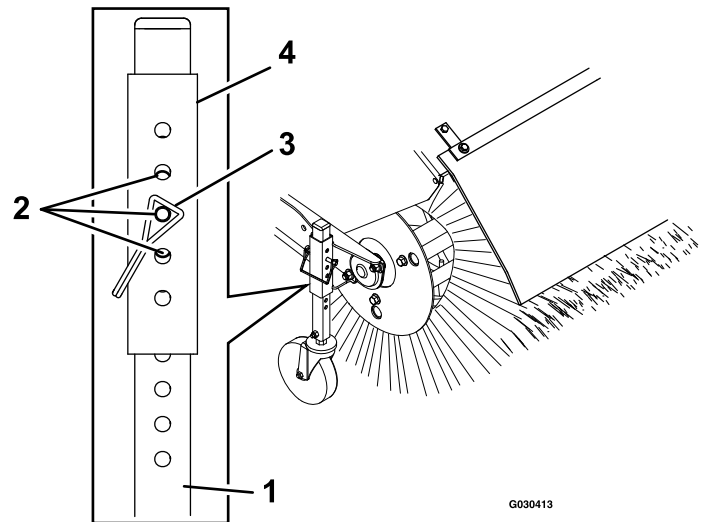

Figure 17
- To adjust the broom height, remove and retain the pin from the adjuster sleeve and wheel tube of the caster (Figure 17).
7. For fine tuning adjustments, slide the adjuster sleeve 1 pin hole up or down on the caster wheel tube to adjust the broom height in 3 mm (1/8 inch) increments (Figure 17). Repeat steps 5 through 7 for the other caster wheel.